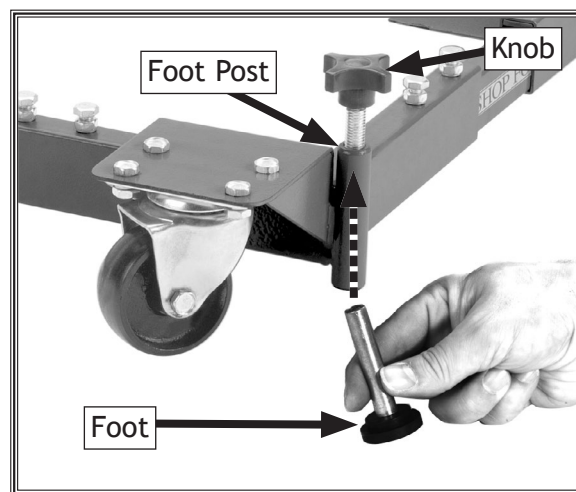

Figure 17. Installing foot and knob into a foot post.
1. Thread a knob several turns into each foot post, as shown in **Figure 17**.
2. Insert a foot into the bottom of each foot post (see **Figure 17**). The magnetized knob shaft should pick up the foot when it comes in close proximity.